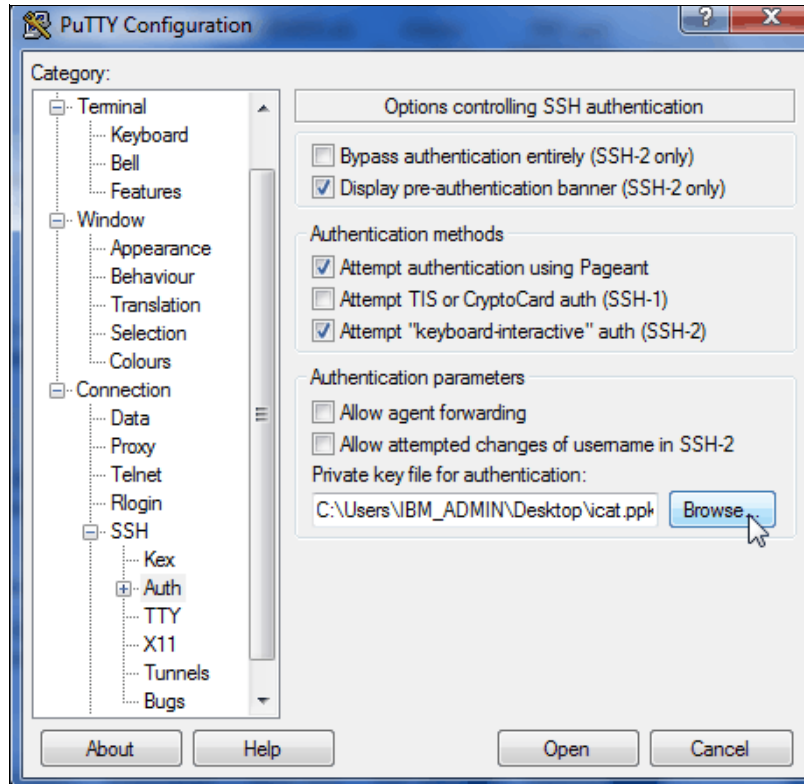

Figure A-12 SSH authentication
- From the Category pane on the left side of the PuTTY Configuration window, click **Connection** → **SSH** → **Auth**. As shown in Figure A-12, in the right side pane in the “Private key file for authentication:” field under the Authentication Parameters section, browse to or manually enter the fully qualified directory path and file name of the SSH client private key file that was created earlier (for example, C:\Support Utils\PuTTY\icat.PPK).